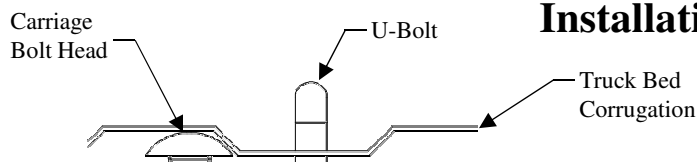

Figure 6
2. Install under bed supports with (4) vertical 5/8" bolts in rails.
7. Using the U-Bolt slots as a guide, drill four 9/16" holes in the bed. These holes must be in a lower bed corrugations to limit the amount of U-bolt showing above the bed (see figure 6).